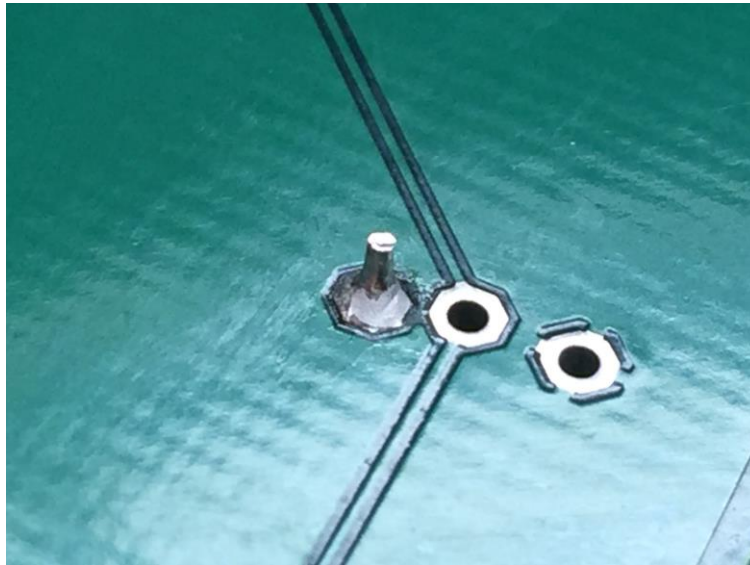

Figure 11.
- f. Cut the extra wire such that it is slightly above the conical shape (i.e. not too short) (Figure 11).